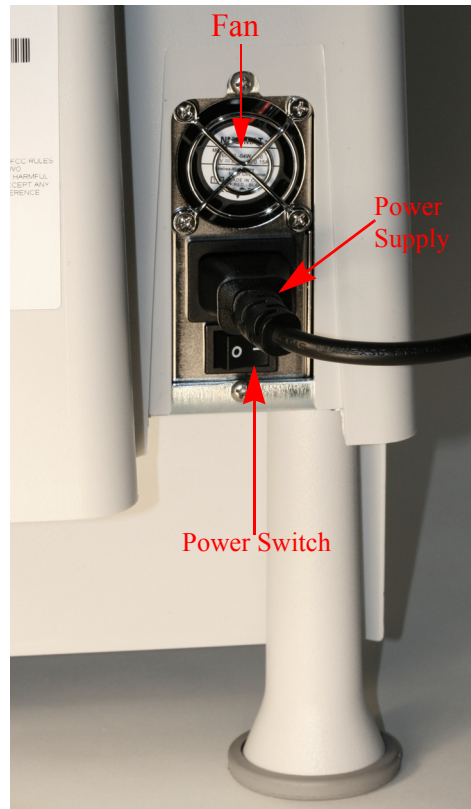

Figure 1.7 Power Supply
1. Insert the power cable into the receptacle located in between the power switch and fan on the back of the Eyecon. Refer to Figure 1.7.